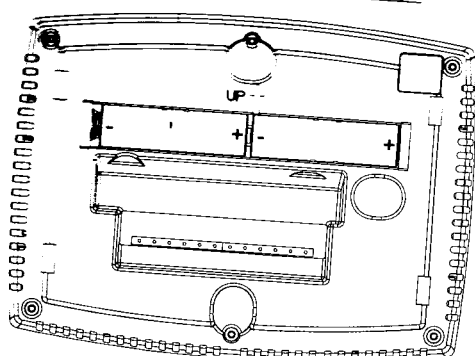

Fig. 17. Installing batteries.
1. Install Two AA alkaline batteries on the back of the thermostat as marked on the thermostat. See Fig. 17.